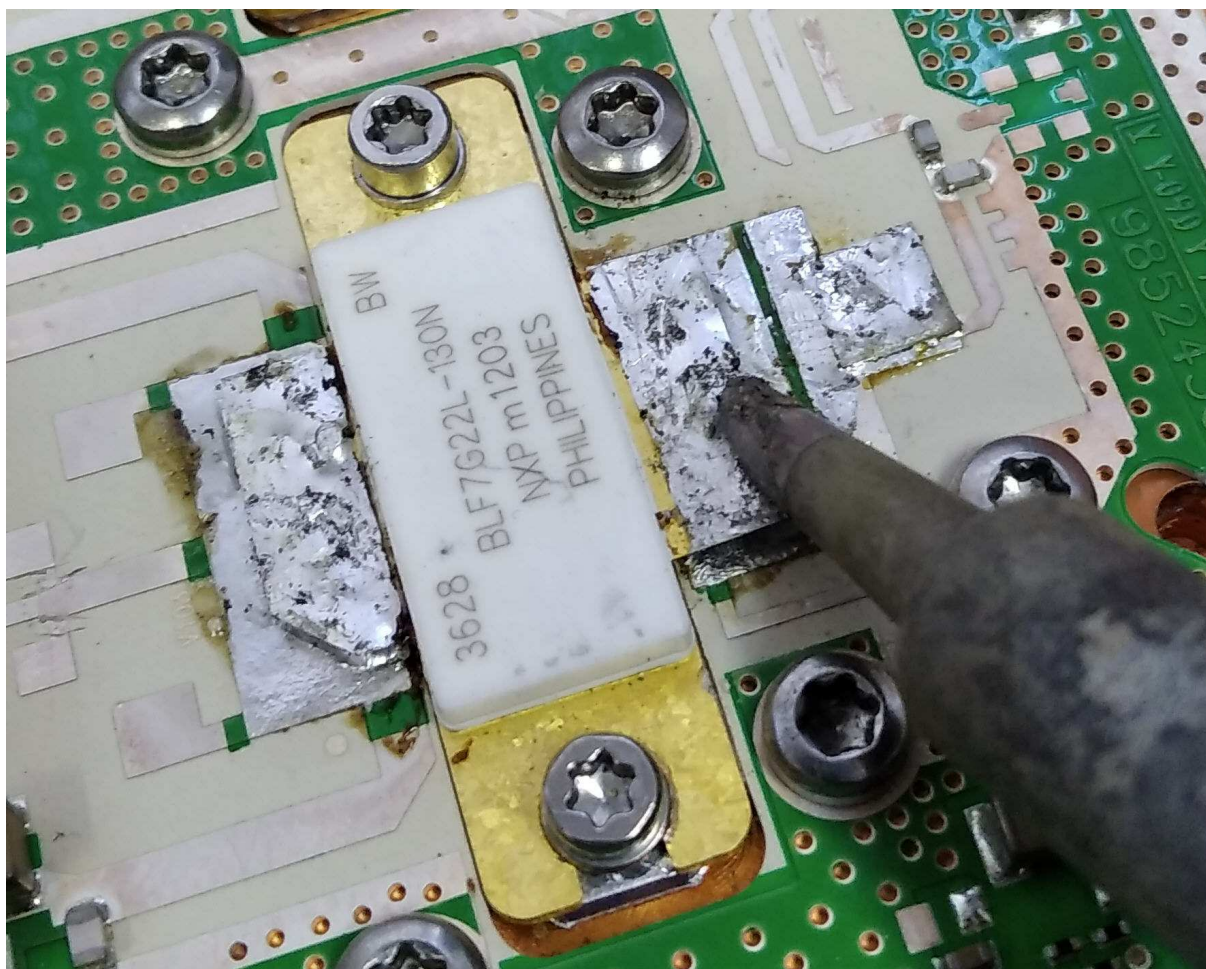

Figure 3. Soldering and bending terminals of LDMOS
3. Now solder the terminals of the transistors one by one, as much as possible bending them (pressing) to the board (Fig. 3). This should be done carefully so as not to mechanically damage the transistors.